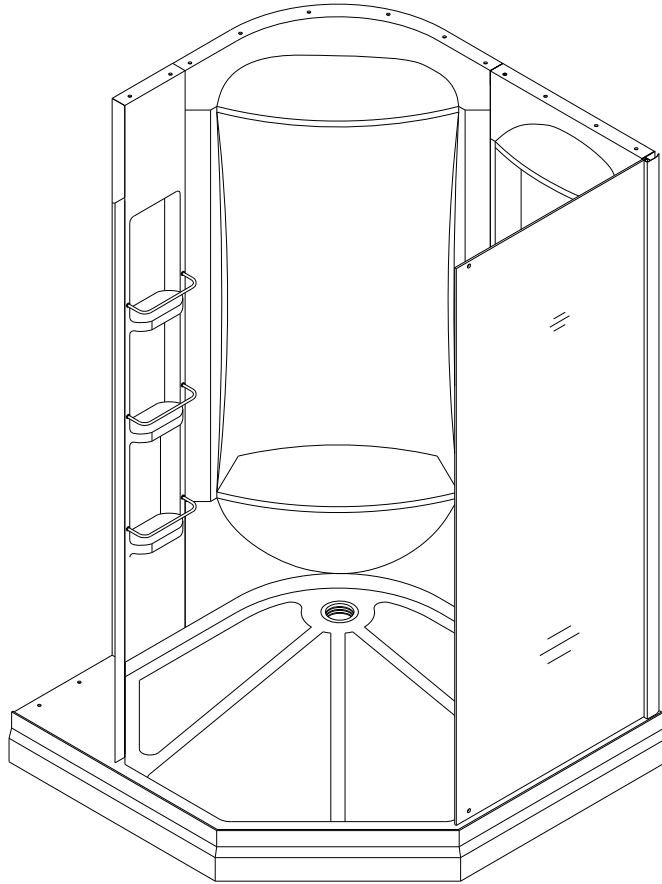

Fig 10
Install the **Wide stationary glass (07)** to the side panel with **Bolt M6x16 (24)**. Apply silicone sealant between the side panel and the aluminum profile. See Fig 10 and Fig 11 for details.